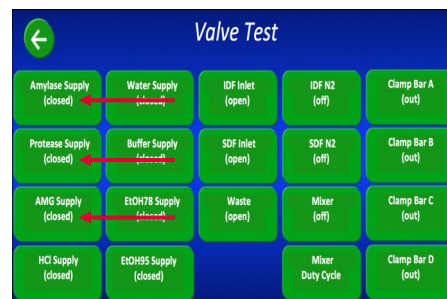

Figure 14
11. From the “Valve Test” screen, open the “Amylase Supply”, “Protease Supply” and “AMG Supply”. This will open the valves allowing access to the Enzyme Valve for replacement of the tubes. See Figure 14.